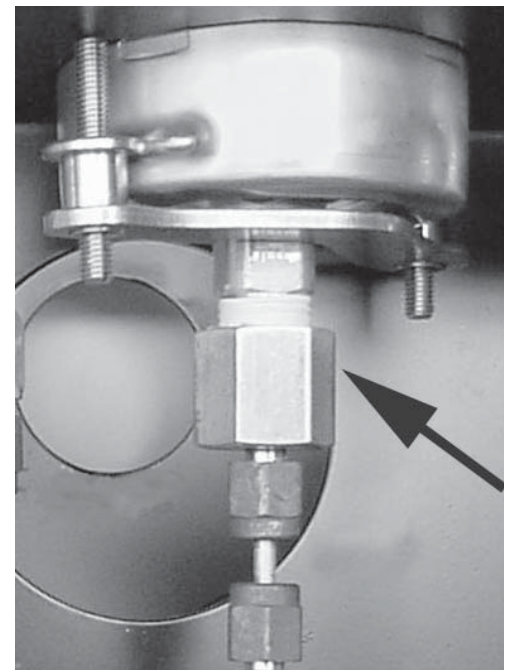

figure 29
14.2. If the gauges (GAG1) need to be removed simply disconnect the tubing fitting (PRS10) from the back of the gauge using a 7/16" wrench (figure 29). Always use a 3/4" backup wrench. Then loosen the gauge bracket with a small straight screwdriver. Once loose the bracket will slip out of the gauge and the gauge will lift out of the panel.
14.4. If the compression fitting is removed it must be reinstalled with PTFE (Teflon) tape. Reinstall the gauge by reversing the removal procedure. The compression fitting should be tightened by hand and then snugged firmly with a 7/16” wrench (see figure 29).